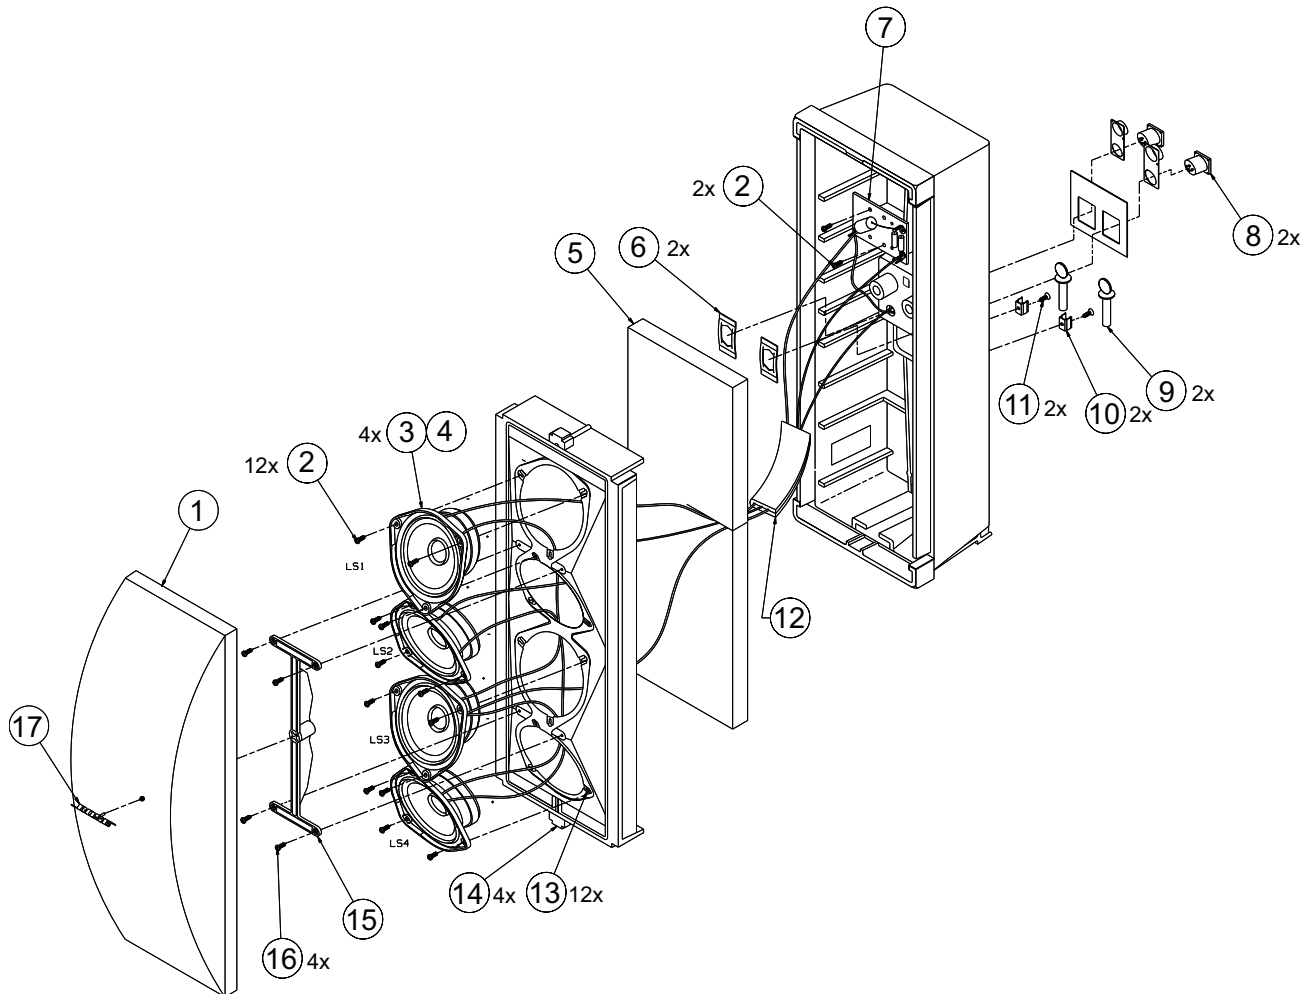

Figure 1. Exploded View
Note: Numbers in parenthesis correspond to call-outs in figure 1.
8.1 Referring to figure 1, attach the wires to the Speakon connector (4).